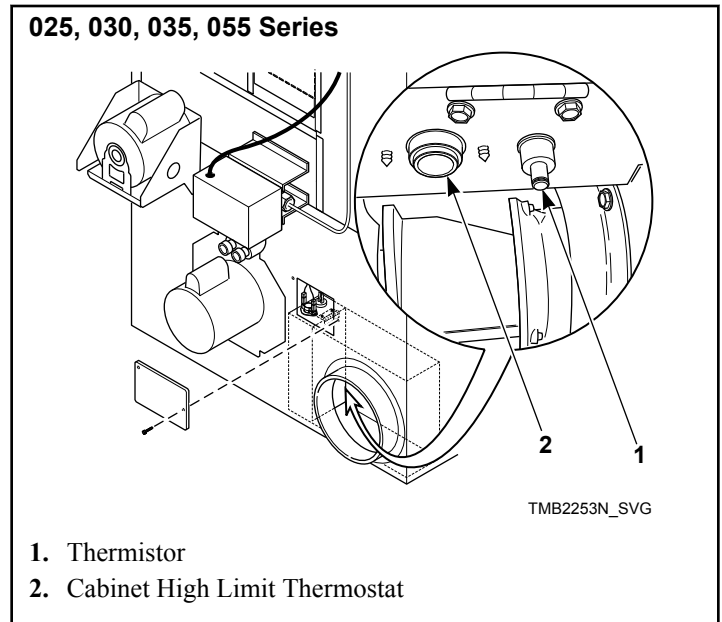
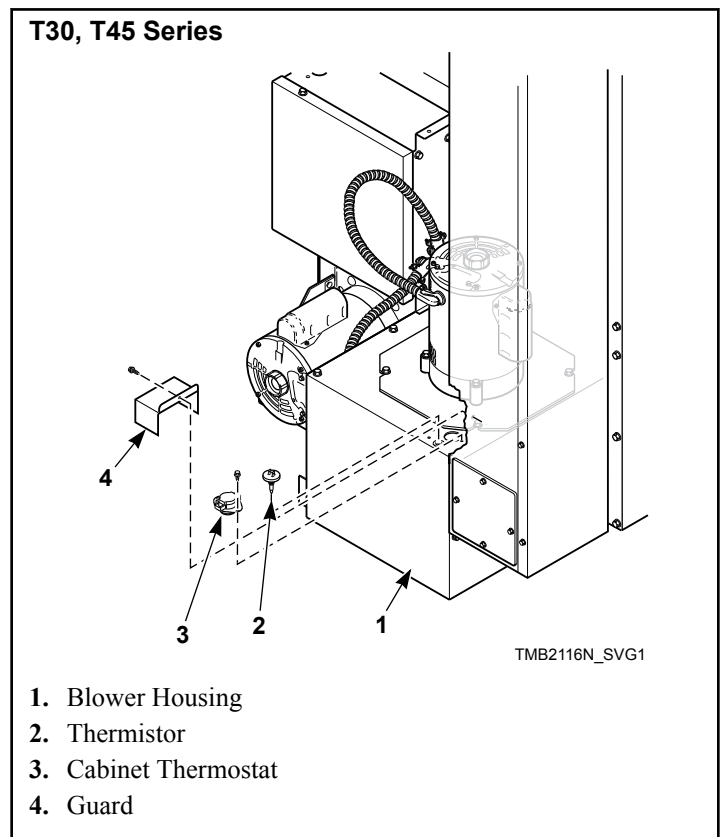

Figure 65
Figure 66
- e. Wipe lint off of the cabinet high limit thermostat and thermistor. Refer to *Figure 65* and *Figure 66*.